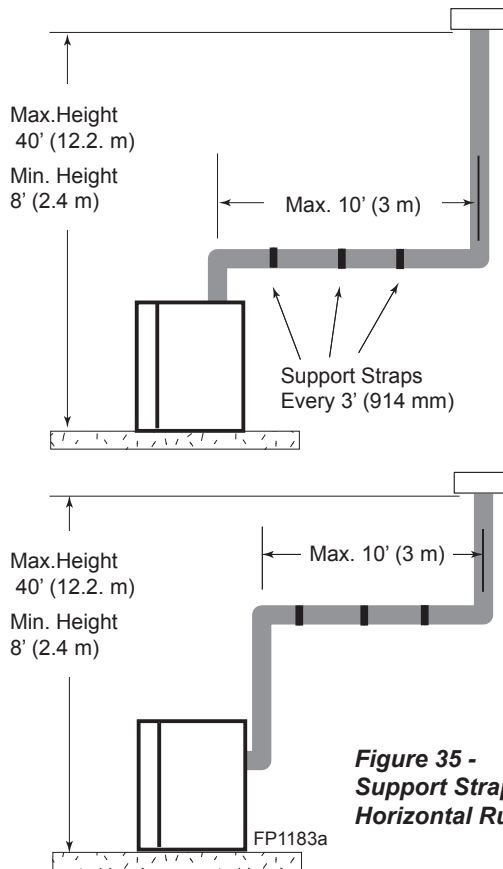

**Figure 35 -
- Vertical installations up to 40' (12 m) in height. Up to a 10' (3 m) horizontal vent run can be installed within the vent system using a maximum of two 90° elbows. *Figure 35*
- Two sets of 45° elbow offsets may be used within the vertical sections. From 0 to a maximum of 8' (2.5 m) of vent pipe can be used between elbows. *Figure 35*